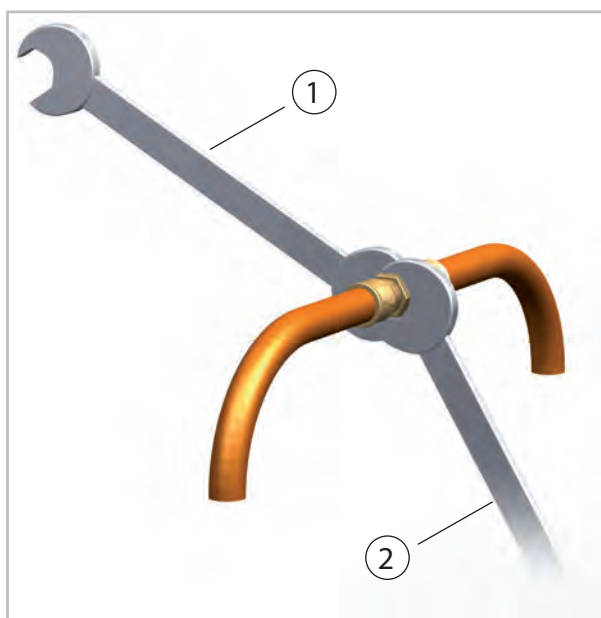

Fig. 55: Tightening the fitting
- The connection of the refrigerant pipes to the device connections are to initially be made by hand, in order to ensure a good fit. Subsequently the threaded assemblies are to be fastened with two appropriate open-ended spanners. One of the spanners is to be used to **counter the rotation** (Fig. 55).